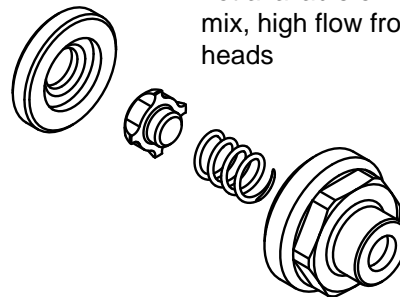

FIG. 18
12. Install check valve (812) and new spring (813) into the seat then install cap (806). See FIG. 18 for orientation of parts.
8. Install check valve (812) and spring (813) into the seat then install cap (806). See FIG. 18 for orientation of parts.